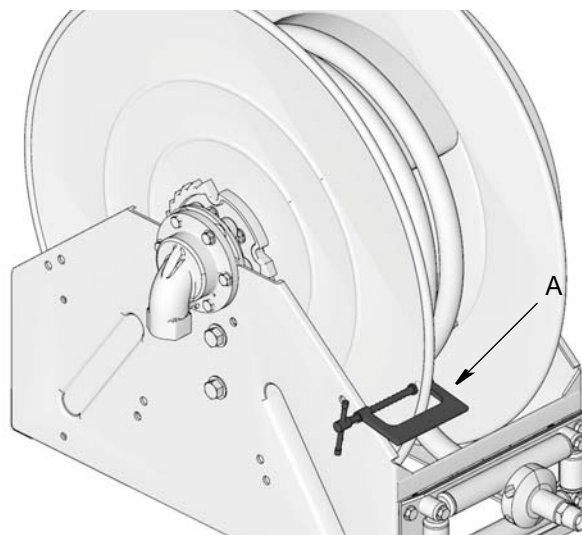

FIG. 77
3. Attach a c-clamp (A) to the reel spool as shown in FIG. 77 to help prevent the reel from unintentionally becoming unlatched and spinning freely.